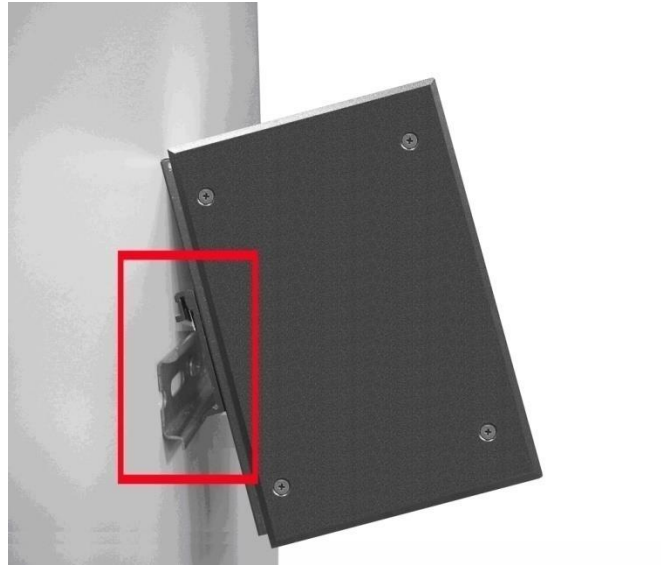

Figure-11
3. After the DIN-Rail bracket is screwed on the rear side of the switch, insert the top of the bracket into the rail as **Figure-11**.